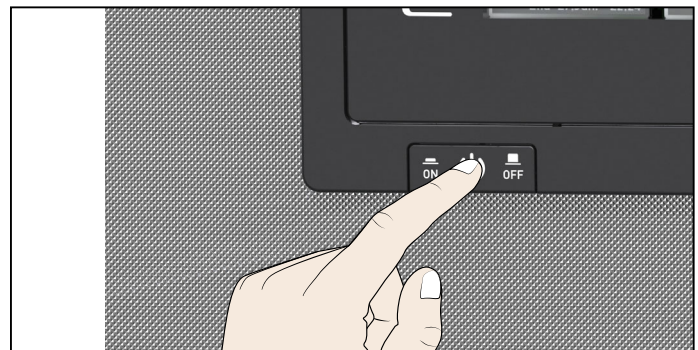

Fig. 17 Switch off appliance
3. Switch off the appliance (Fig. 17).